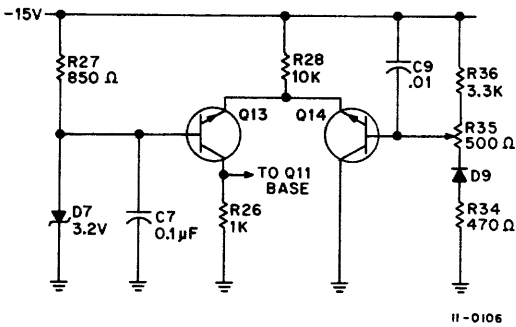

Figure 2-11 -15V Differential Amplifier
2.4.2.2 Differential Amplifier – The -15V differential amplifier (see Figure 2-11) is nearly identical in operation to the +5V amplifier described in Paragraph 2.4.1. With the exception of those differences noted below, each component serves the same function as its counterpart in the +5V differential amplifier.